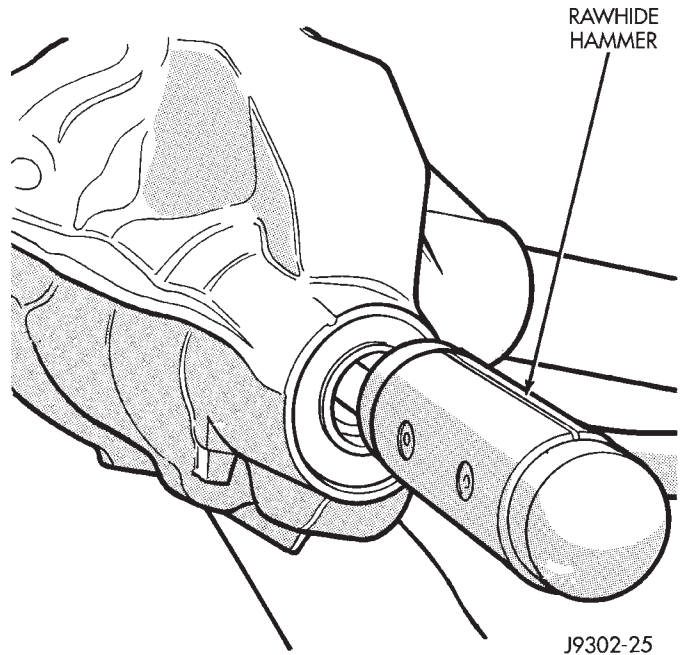

Fig. 13 Remove Pinion Gear
- (11) Remove the pinion gear from housing (Fig. 13). Catch the pinion with your hand to prevent it from falling and being damaged.
- (12) Remove collapsible spacer from pinion shaft.